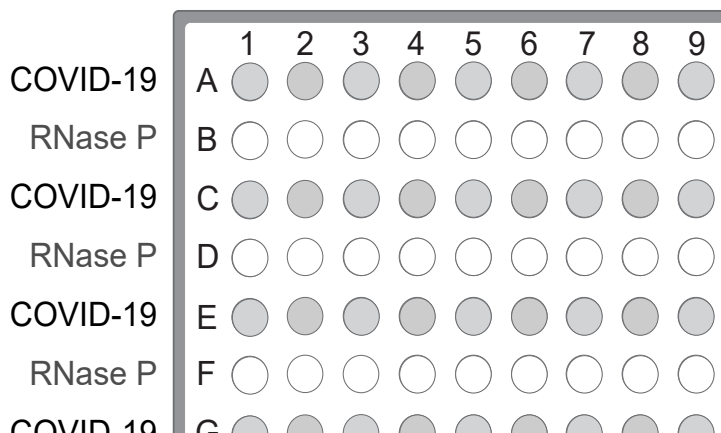

Figure 7 Assays in alternating plate rows
- Starting with row A, pipet 15.0 μ L per well of the COVID-19 Reaction Mix into every other row of a MicroAmp™ Optical 384-Well Reaction Plate with Barcode. See Figure 7 on page 66. A MicroAmp™ Optical 384-Well Reaction Plate can be used (see “Required materials not supplied” on page 13).